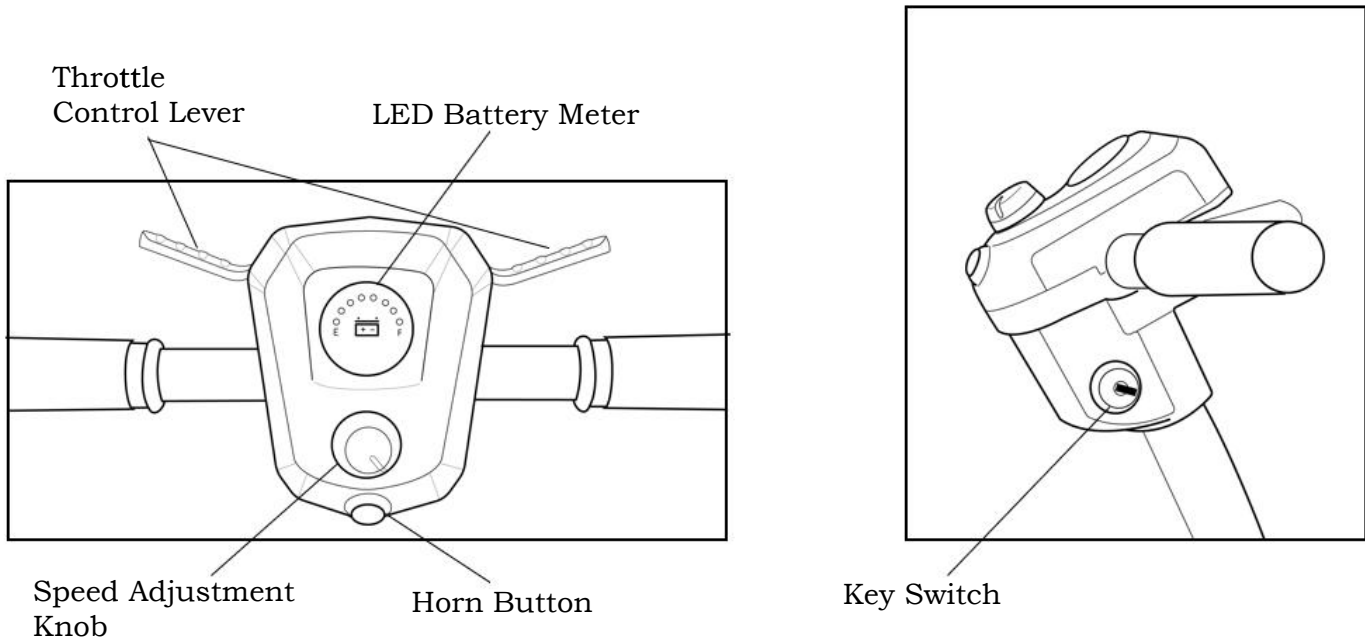

Figure 5. Buzzaround Lite™ Tiller Control Panel
- The speed adjustment dial allows you to preselect the maximum top speed of your Golden Buzzaround Lite. See figure 5.
This switch turns the power on and off to your Buzzaround Lite. See figure 5.
Press this button to sound the horn. See figure 5.
This meter (see figure 5) shows the amount of voltage in your Buzzaround Lite's batteries.
The Tiller enables you to use only one hand (either the right or left) to operate both the speed and the direction of the Buzzaround Lite. This self-centering lever system controls your Buzzaround Lite's speed (up to the maximum speed set by the speed adjustment dial and its forward and reverse direction. See figure 5.